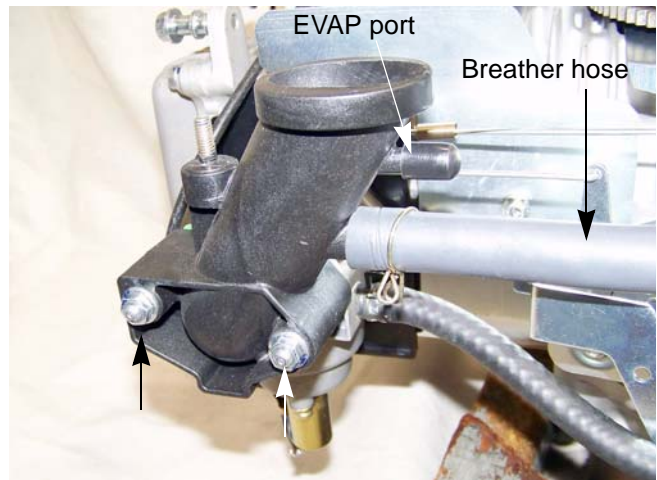

Figure 3.8
2. Disconnect the breather hose from the intake manifold. See Figure 3.8.
3. Remove the intake manifold by removing the two nuts (indicated by the arrows in Figure 3.8.) using a 10 mm wrench.